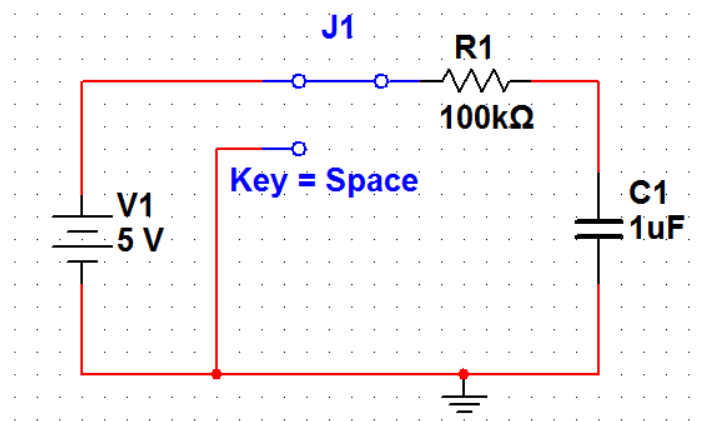

Figure 1: RC Circuit MultiSim Schematic
10. Double click the DC voltage source and change the value to **5 V**. Next use the mouse to draw lines and connect the components to match Figure 1. Note that you can rotate the components by selecting them and pressing **CTRL-R**.